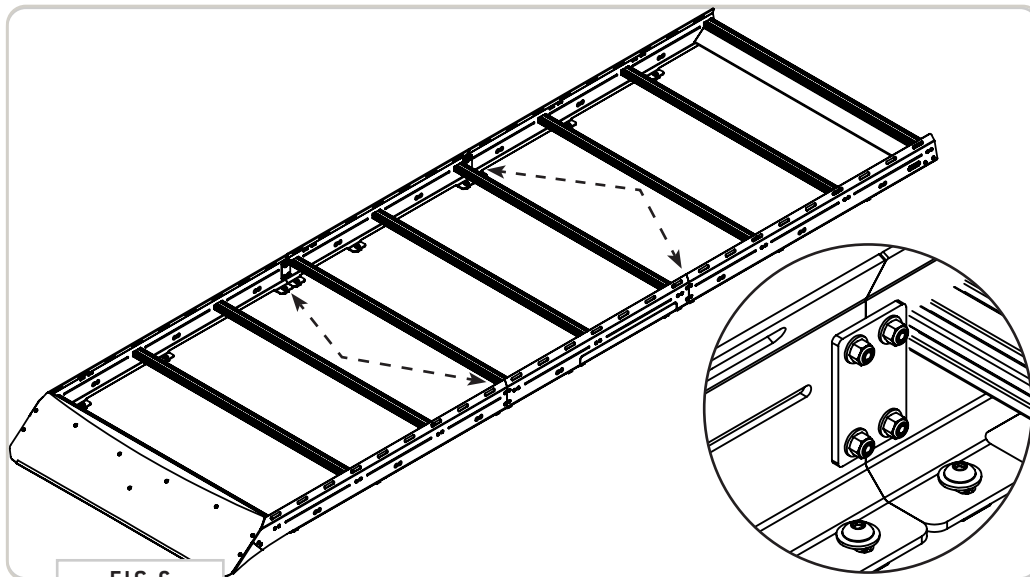
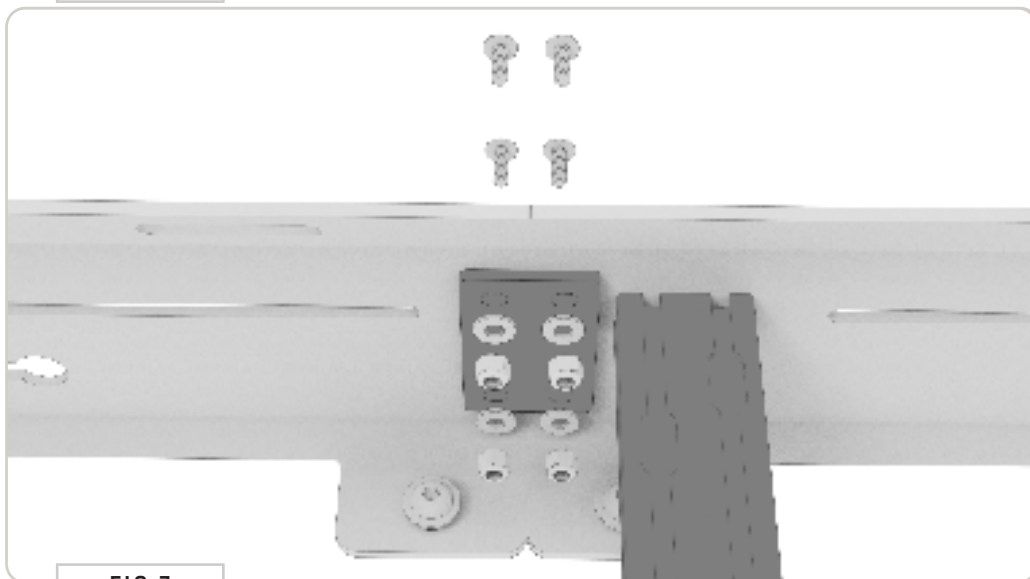

FIG 6
FIG 7
2.2 Side Rail Connecting Plates: Install the **Side Rail Connecting Plates** to the locations shown in FIG 6 using (4ea) 1/4-20 x 0.75 **Flanged Button Head Screws, Flat Washers and Nylon Locknuts** to loosely join the Side Rails together (FIG 7).